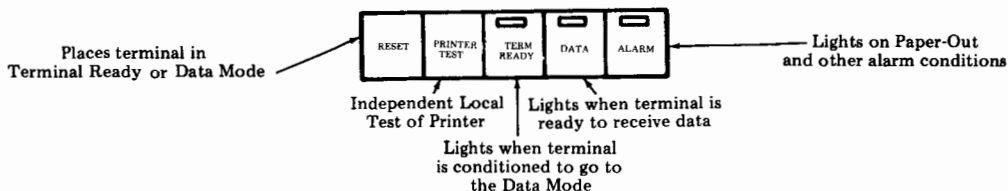

Fig. 5 — RO Operational Controls and Status Indicators
2.16 The operator console controls and status indicators for the RO are briefly described in Fig. 5.